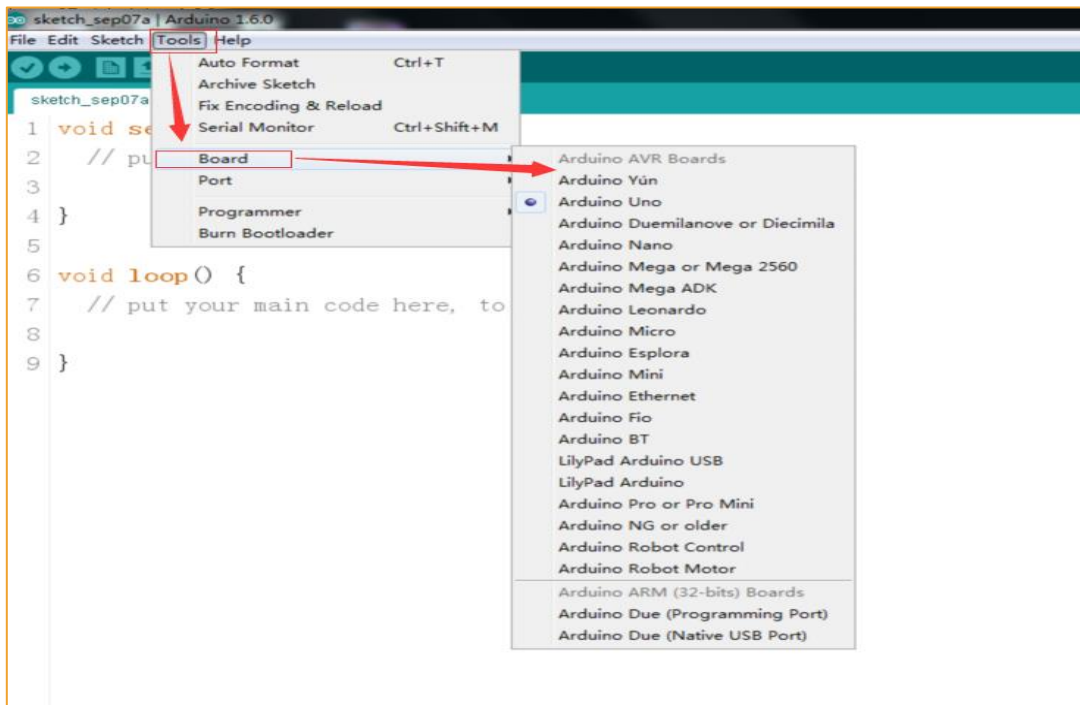

Figure 4-12 Tools interface
- Click Tools, the interface shown in Figure 4-12 pops up. Here we can see the two options of Board and Port. In the Board option, we can see the commonly used Arduino development board models, you only need to choose according to the development board in your hand. In the Port option, the